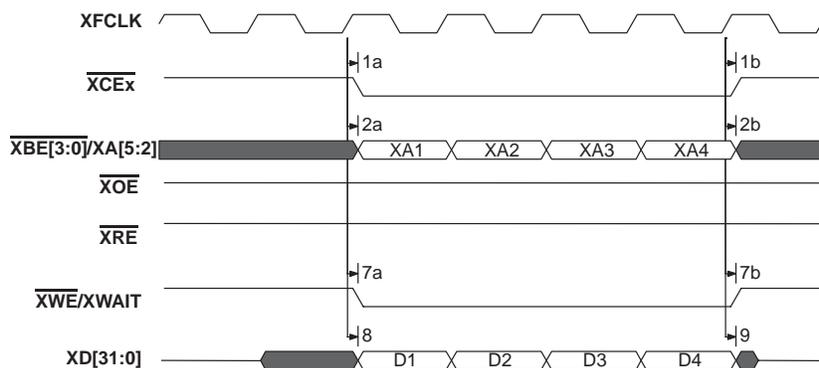

Figure 9. FIFO Write Timing
- \overline{XCE} high-to-low transition after XFCLK high (Parameter 1a in Figure 9)
- \overline{XCE} low-to-high transition after XFCLK high (Parameter 1b in Figure 9)
- $\overline{XBE}/XA[5:2]$ valid after XFCLK high (Parameter 2a in Figure 9)
- $\overline{XBE}/XA[5:2]$ invalid after XFCLK high (Parameter 2b in Figure 9)
- \overline{XWE} high-to-low transition after XFCLK high (Parameter 7a in Figure 9)
- \overline{XWE} low-to-high transition after XFCLK high (Parameter 7b in Figure 9)
- XD[31:0] valid after XFCLK high (Parameter 8 in Figure 9)
- XD[31:0] invalid after XFCLK high (Parameter 9 in Figure 9)